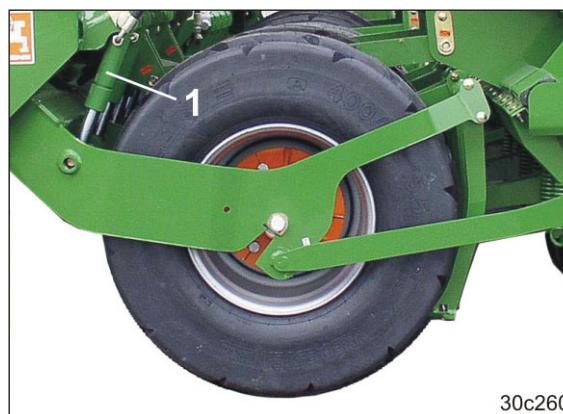

Fig. 247
→ This fills the equalising system including the hydraulic cylinders (Fig. 247/1) with hydraulic fluid.
13. As soon as all hydraulic cylinders (Fig. 247/1) have been fully extended, close both hydraulic stop-cocks, for machines